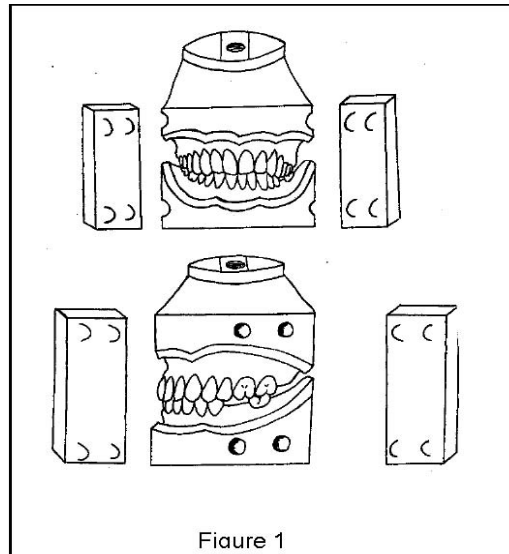

Figure 1
- d) Lateral Stone Straps. One of the most reliable and stable means of communicating the cast relationship to the ADL is by using lateral stone straps. The casts are mounted in the usual manner in the base dental laboratory. Two large half-round dimples are side by side on both sides of the cast base with a large round acrylic bur. Blockout is accomplished with utility wax, or other suitable substance. The cast is painted with a stone separator and dental stone is gently vibrated into the dimples and build up to connect both casts. Plaster is not recommended for strap fabrication because of its low strength. When set, the straps are trimmed on a cast trimmer and labeled with the patient's name with left and right sides marked (See Figure 1). These stone matrices will record the jaw relation that was used to mount the casts and have the advantage of not breaking or distorting easily during shipment. Lateral stone straps can be made between casts that have been diagnostically mounted in an articulator, or between casts that have only been related together with a jaw relation record. Once the straps have been fabricated, send: (1) the maxillary cast with its mounting ring attached (if previously mounted via a facebow), (2) the mandibular cast and (3) the paired stone straps. The mandibular cast should be unmounted. Be sure to include the articulator type and condylar control settings. **Do not send the articulator itself to the ADL unless you have no other method to meet requirements.**